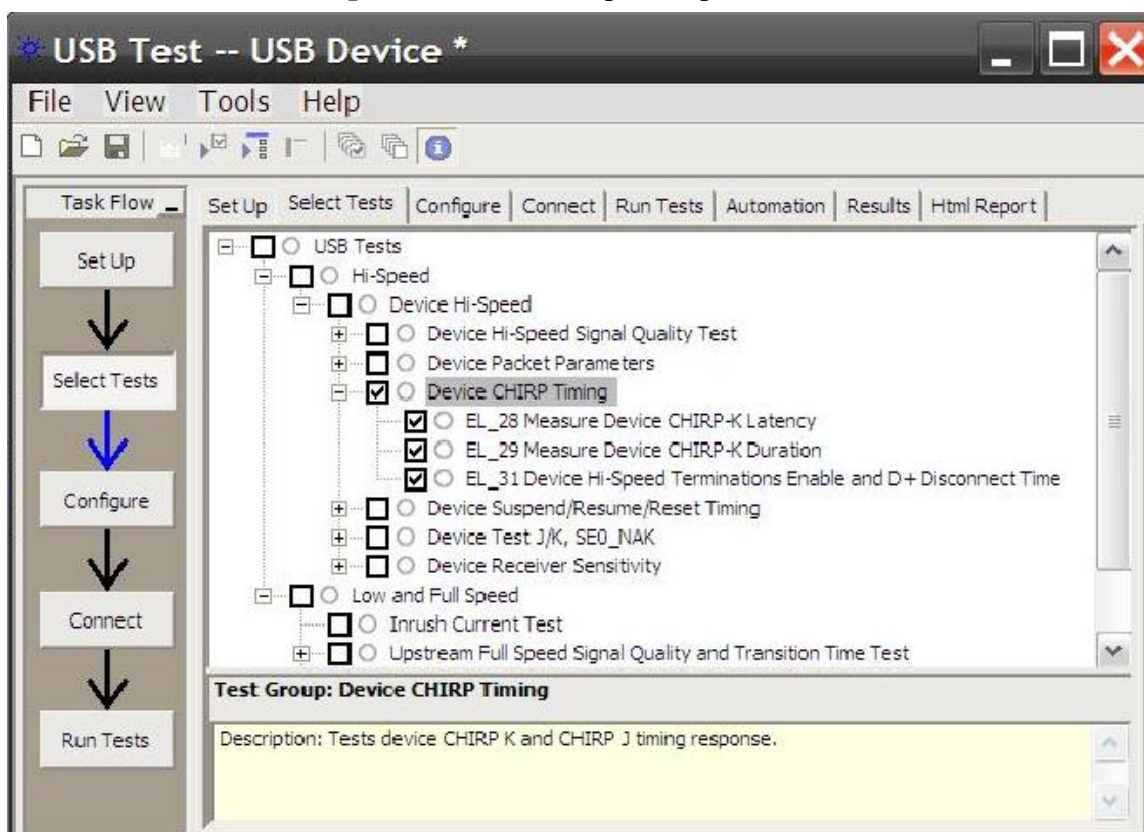

Figure 40. Device Chirp J/K Test
1. Select the test items in the USB Automated Test software on the oscilloscope as shown in Figure 40, and make sure you set the Test Type configuration option to Hi-Speed Near End before running the test.